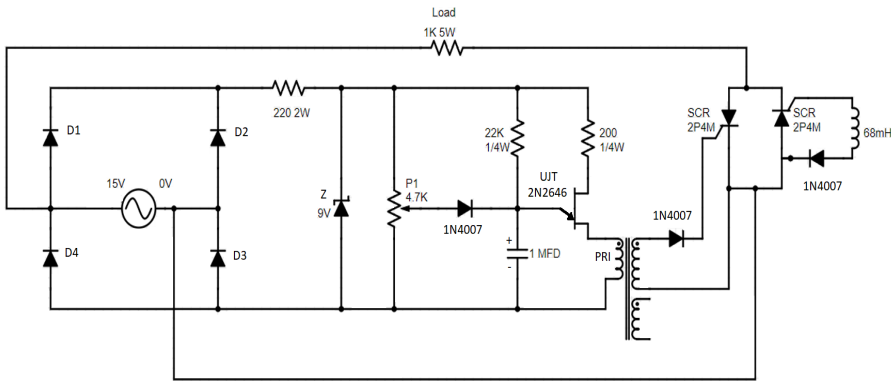

Figure 19
The circuit diagram of basic anti-parallel SCR in AC load is shown in the below Fig.19
1. Connect the circuit, as shown in Figure 19, using patch cords.